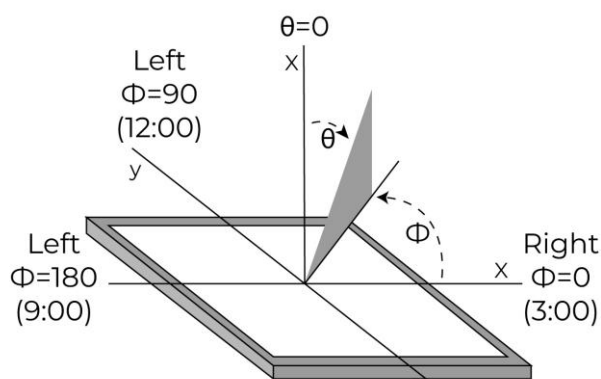

Figure 3. The definition of viewing angle
**Note 6.** For TFT module, viewing angle is the angle at which the contrast ratio is greater 10. The angles are determined for the horizontal or x axis and the vertical or y axis with respect to the z axis which is normal to LCD surface. For more information see Figure 3.